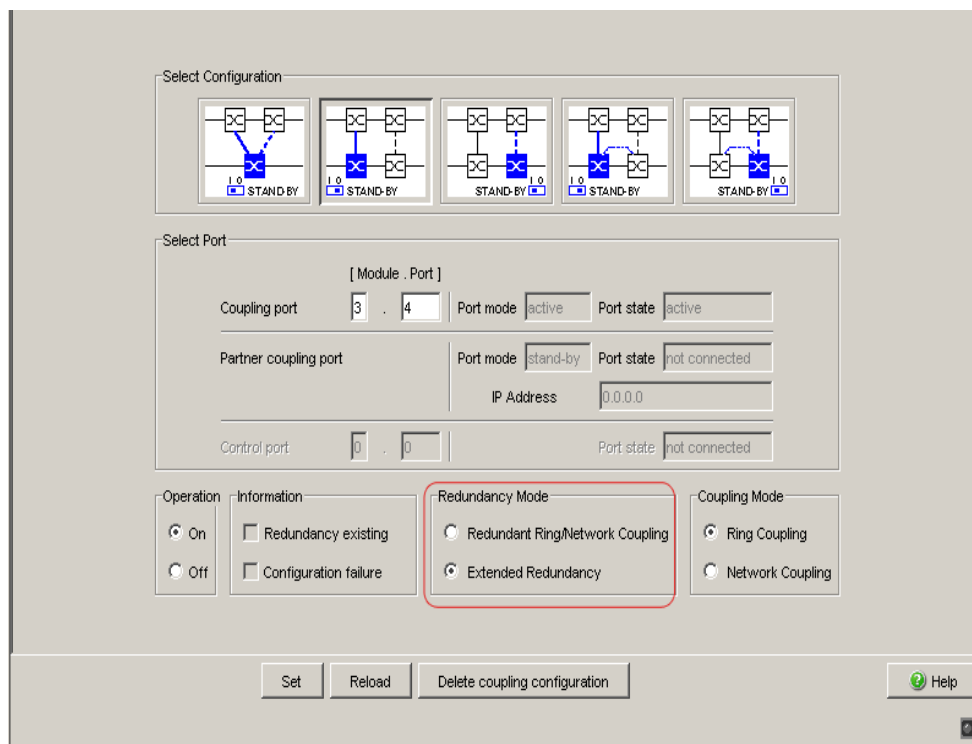

Figure 33: Two-Switch coupling: Selecting the redundancy mode
- In the “Redundancy Mode” frame, select (see figure 33)